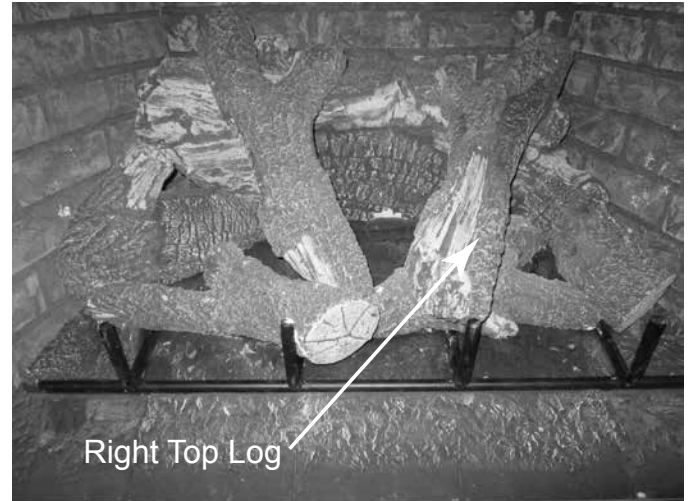

Figure 11.16
- Place right top log on two locating pins on back log and right front log. See Figure 11.16.